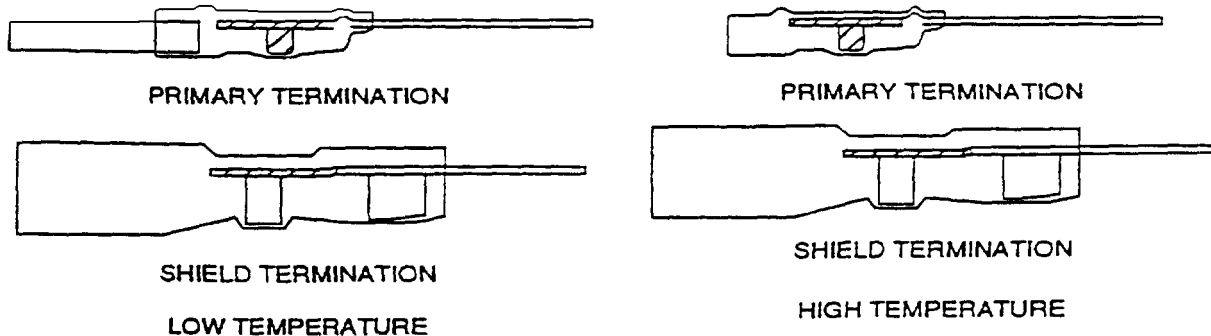

Figure 7 . Coaxial Cable Solder Sleeves
21. **COAXIAL CABLE SOLDER SLEEVE TERMINATIONS.** Coaxial cable solder sleeve terminations (Figure 7) are used to terminate coaxial cables to PC boards, solderless wrap terminals, and crimp solder connections. These solder sleeves consist of two heat-shrinkable thermoplastic sleeves, each containing a ground or signal lead, fluxed solder preform and thermoplastic sealing inserts. The thermoplastic sealing inserts melt when the sleeve is heated to form an environmentally protected termination and eliminates the possibility of a solder bridge between the center